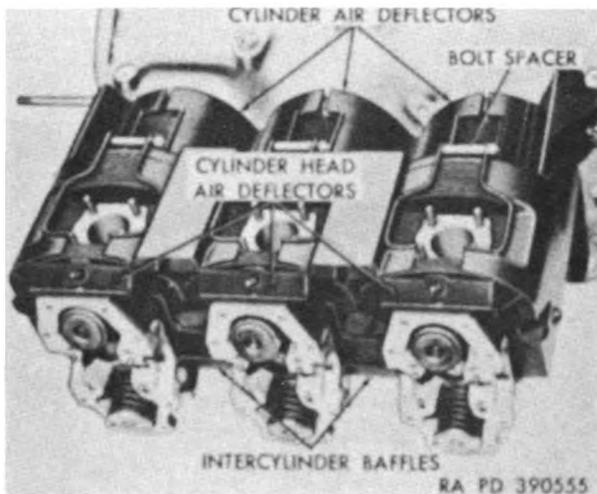

Figure 51. Cylinder air deflectors and baffles—installed view.
- (1) Lift six cylinder head air deflectors (fig. 51) from cylinder heads.
- (2) Remove four hex-head bolts and lock washers securing four intercylinder baffles (fig. 51) to flywheel side of Nos. 2 and 4 cylinder heads, and to acces-